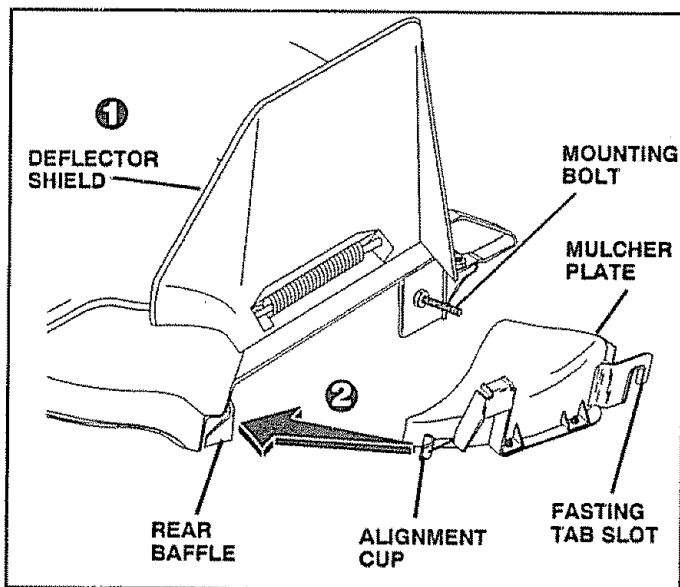

FIG. 6
- Slide seat until a comfortable position is reached which allows you to press clutch/brake pedal all the way down (See Fig. 6).
(See Figs. 6 & 7)